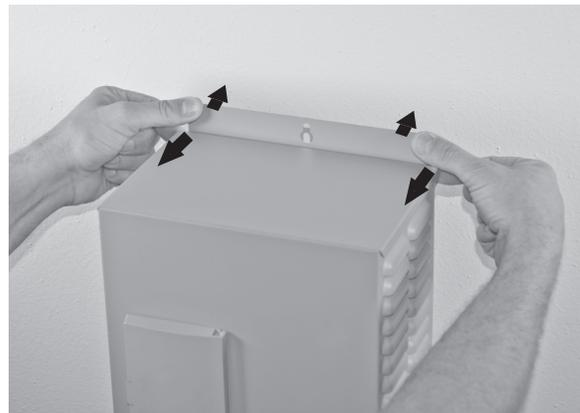

Figure 8-3: Separate Cover And Back
2. Push on backplate with thumbs while pulling the cover toward you with index fingers, creating a gap (Figure 8-3 and 8-4).